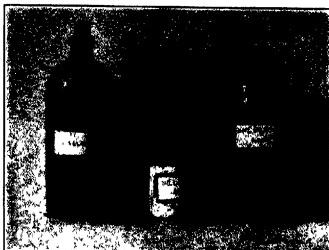

Fig. 244. Shellac Utensils.
*Care of brushes and materials used in finishing wood.* Shellac should be kept in glass or pottery or aluminum receptacles but not in any metal like tin, which darkens it. A good plan is to have a bottle for fresh, untouched shellac, a wide-mouthed jar for that which has been diluted and used, and an enameled cup for use. There should also be a special brush, Fig. 244. At the time of using, first see that the brush is soft and pliable. If it is stiff, it can be soaked quickly and softened in a little alcohol in the cup. This alcohol may then be poured into the jar and mixed in by shaking. Then pour out a little from the jar into the cup, and if it is too thin, thicken with some fresh shellac. After using, pour back the residue into the jar, carefully wiping the brush on the edge of the jar; and if it is not to be used again for some time, rinse it in a little alcohol, which may also be poured into the jar, which should then be covered. What little shellac remains in the brush and cup will do no harm and the brush may be left standing in the cup until required. The important things are to keep the shellac cup and brush for shellac only, (indeed, it is a good plan to label them "SHELLAC ONLY,") and to keep the shellac covered so that the alcohol in it will not evaporate. In a pattern-making shop, where the shellac cup is to be frequently used, it is well to have cups with covers thru which the brushes hang, like the brush in a mucilage jar.